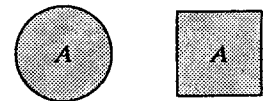

Figure P8.3
8.3 Two pipes, one circular and one square, have the same cross-sectional area (Fig. P8.3). Which has the larger hydraulic radius, and by what percentage?